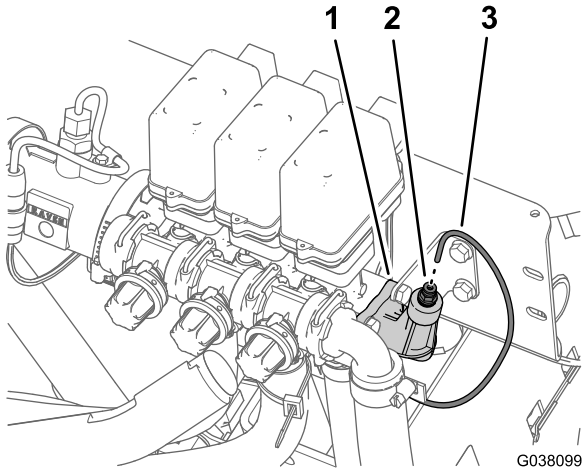

Figure 5
1. Press in the collar for the tube coupler in the end cap of the right boom-section valve (Figure 5).
2. Pull the pressure-sense tube for the dash gauge out of the tube coupler (Figure 5).